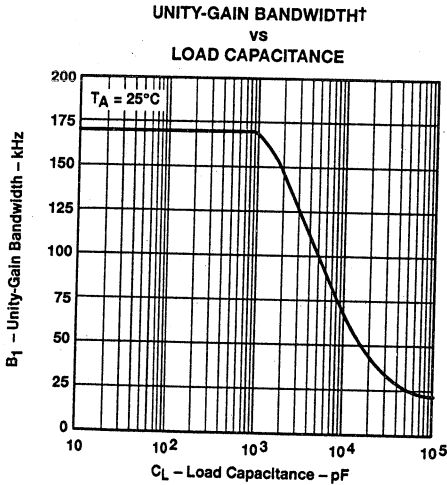

Figure 54
The unity-gain bandwidth (UGBW) frequency decreases as the capacitive load increases (see Figure 54). To use equation (1), UGBW must be approximated from Figure 54.